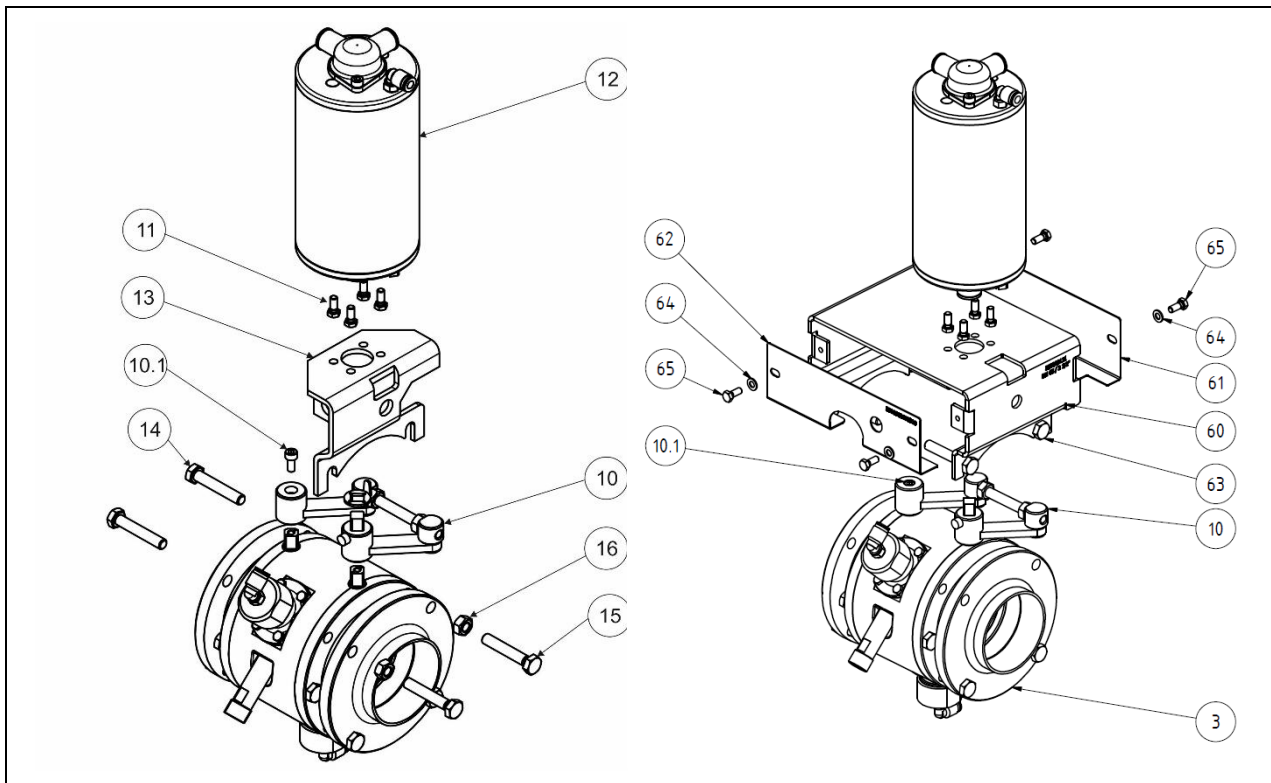

Fig. 6-12: Access Protection Installation
- Unscrew the socket-head screw (Fig. 6-12, item 10.1).
- Unscrew the nuts (Fig. 6-12, item 16) on the holding bracket (Fig. 6-12, item 13) of the pneumatic actuator (Fig. 6-12, item 12).
- Pull out the entire “Pneumatic actuator with holding bracket” assembly group (Fig. 6-12, items 12 and 13), the position indicator (Fig. 6-12, item 17) and the shift combination (Fig. 6-12, item 10) in the direction of the axis.
- Unscrew and remove the two upper screws (Fig. 6-12, items 14 and 15) and the nuts (Fig. 6-12, item 16).
- Unscrew the hexagonal bolts (Fig. 6-12, item 11) and remove the holding bracket (Fig. 6-12, item 13) from the actuator.
- Screw the actuator (Fig. 6-12, item 12) onto the bracket (Fig. 6-12, item 60) using the hexagonal bolts (Fig. 6-12, item 11) until finger-tight.
- Fit the shift combination (Fig. 6-12, item 10) onto the square drive of the valve disc shafts and secure it with the socket-head screw (Fig. 6-12, item 10.1).
- Fit the position indicator (Fig. 6-12, item 17) on the square drive .
- Push the holding bracket with actuator (Fig. 6-12, item 60 and item 12) carefully over the outer flange (Fig. 6-12, item 3).
- When doing this, guide the square drive of the shift combination (Fig. 6-12, item 10) into the square socket of the actuator (Fig. 6-12, item 12).
- Screw the bracket (Fig. 6-12, item. 60) on tightly with the screws (Fig. 6-12, item 63) included in the retrofit kit.
- Tighten the screws (Fig. 6-12, item 11).
- Install the switches for monitoring the position of the actuator into the holes in the bracket (Fig. 6-12, item 60, M12 x 1) and the cover plate (Fig. 6-12, item 62, hole diameter D = 13).
- Screw the cover plate (Fig. 6-12, item 62) tightly onto the bracket with two supplied washers (Fig. 6-12, item 64) and screws (Fig. 6-12, item 65).
- Perform a function test by repeatedly switching to the “Open / Closed” positions (90°). Make sure that the position indicator (Fig. 6-12, item 13) performs a full 90° movement when doing this.
- Screw the cover plate (Fig. 6-12, item 61) tightly onto the bracket with two supplied washers (Fig. 6-12, item 64) and screws (Fig. 6-12, item 65).